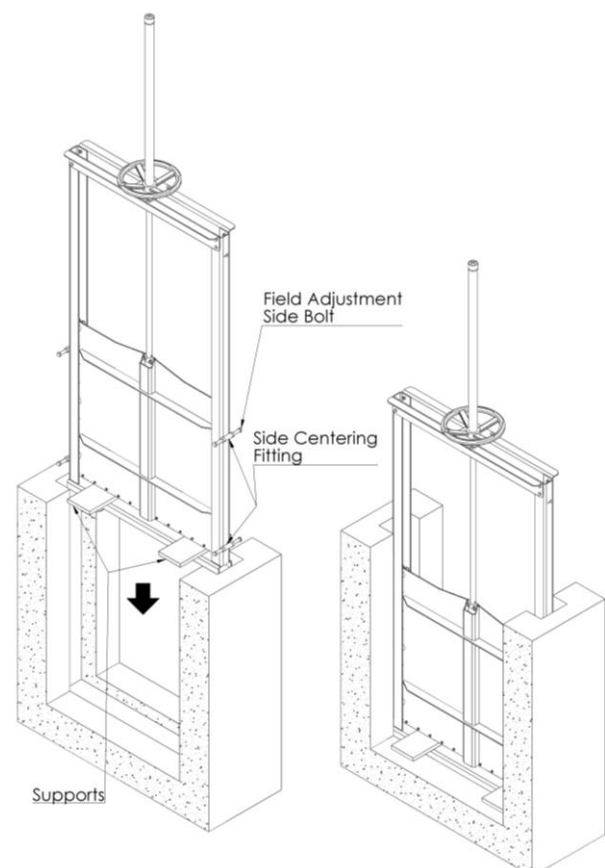

Figure 4
- Get two parts as support in order to levelling the channel gate vertically ("Supports"). Rise the slide enough to introduce the two supports between the frame and slide and close the slide to fix the supports (See Figure 4)
- Proceed with "Step 2". When the gate is positioned in the recess, the supports will maintain the frame invert flush with the invert of the channel (See Figure 4)